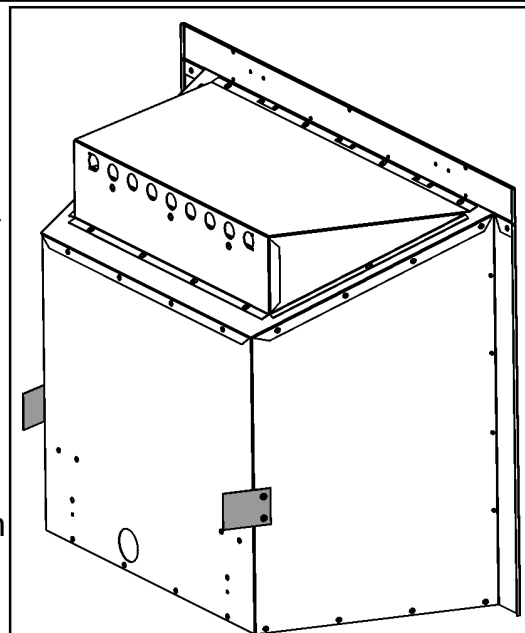

Figure 13. Fireback spacers.
4. The appliance is supplied with two fireback spacers that must be fitted in all installations. These should extend backwards to ensure sufficient clearance from the back of the fireplace. Position the fireback spacer as shown in figure 13. Secure the fireback spacers using four No.8 x 3/8" tapping screws supplied with the fire.